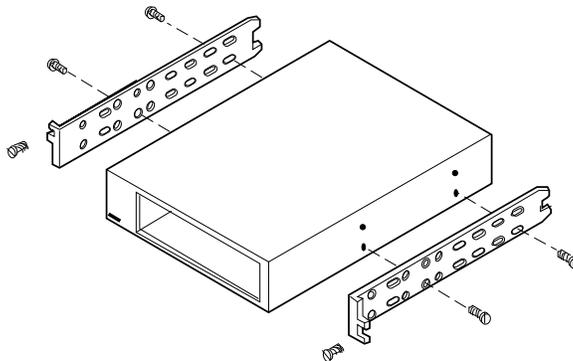

Figure A-28. Attaching the Drive Mounting Rails
- b. Attach the new drive mounting rails to the drive as shown in Figure A-28. Use the holes marked **D** and **K** on each side.